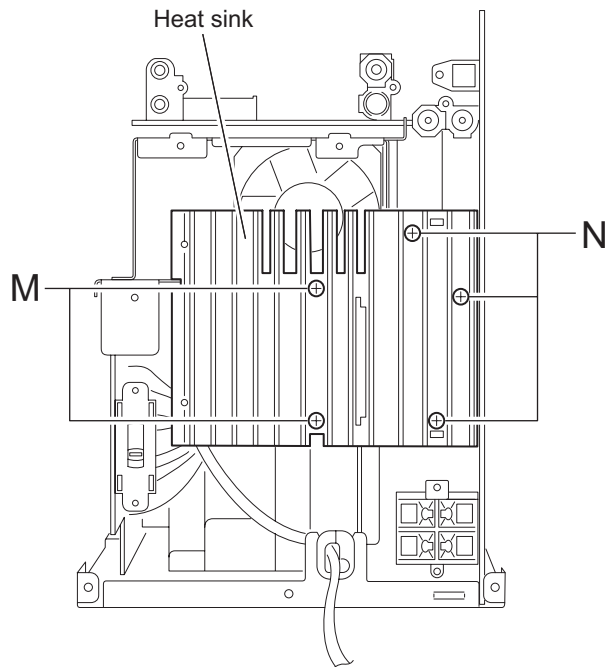

Fig.20
2.1.8 Removing the main board (See Fig.20, 21)